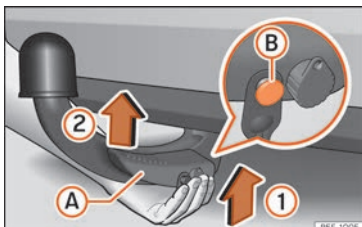

Fig. 185 Putting the tow hook in place. Step 1.
- Hold the tow hook **from below** and fit it into the hook housing in the direction of the arrow »» Fig. 185 ① until it is heard to fit into place »» ⚠.
Lever »» Fig. 185 ① **automatically** turns in the direction of arrow ② upwards, and the release bolt ② moves outwards (its red and green parts are visible) »» ⚠.
- **Keep your hands away from the lever when fitting the tow hook to avoid trapping your fingers** »» Fig. 185 ①.